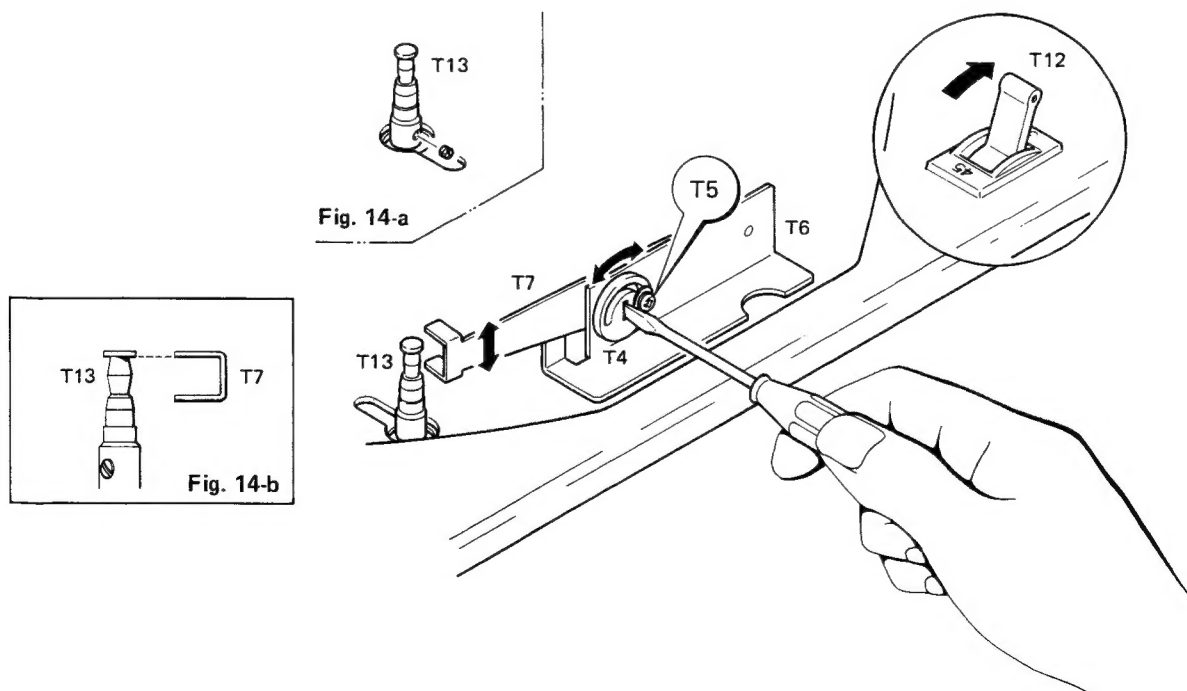

Fig. 14
1. Remove the screw (headless screw $3\phi \times 2$ mm) fastening the pulley (T13) to the motor (T14). (cf. Fig. 14-a)
2. Adjust the speed select arm (T7) so that it corresponds to the pulley (T13) in height as shown in Fig. 14-b. To make this adjustment, loosen the pan head screw (3 x 6) (T5) on the speed select base and move the eccentric pin (T4). (cf. Fig. 14)